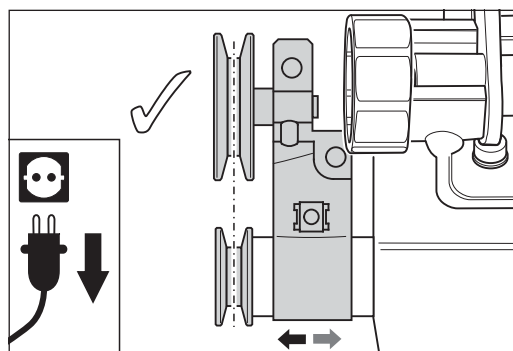
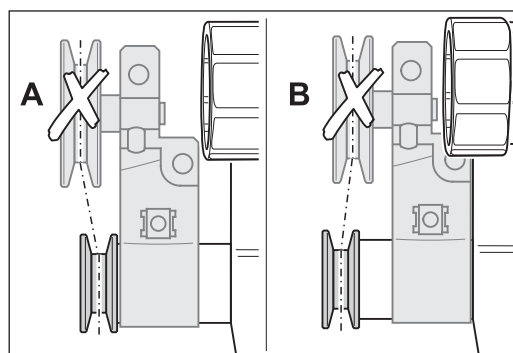

Fig. 102 Orient the belt tensioner to the fan pulley. Move the belt tensioner accordingly.
Fig. 103 Avoid position A and B of the belt tensioner! Otherwise the wearing of fan axle, pulleys and V-belt increase extensive!
**Orient the belt tensioner to the fan pulley! Move the belt tensioner accordingly (Fig. 102)! A wrong orientation from belt tensioner to fan pulley increase the wearing of fan axle, pulleys and V-belt extensive (Fig. 103)! Then these parts must be replaced significant more often!**